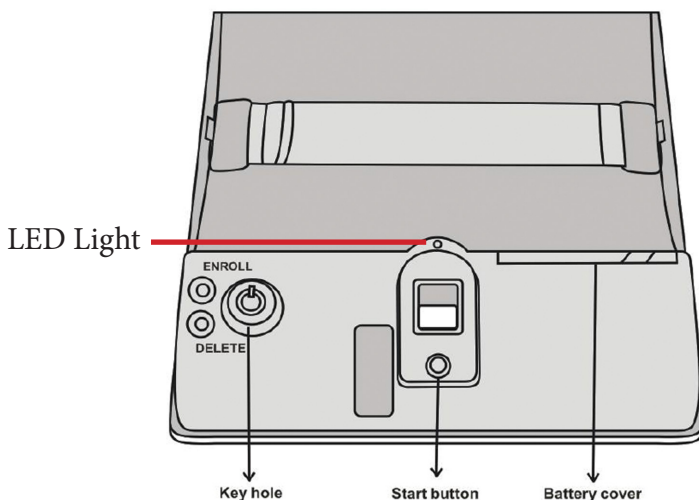

Figure 3
1) Press and release the “ENROLL” button located on the inside of the safe. You will hear ONE (1) beep and the LED light will begin to flash green. The sensor will light up as well. (See Figure 3)
2) Place your finger on the sensor and HOLD for over TWO (2) seconds. You will hear ONE (1) beep and then another ONE (1) beep and finally TWO (2) quick beeps. The LED light will flash green for a successful enrollment. The LED light will flash red for a failed enrollment.